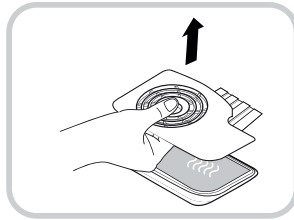

Fig. 2
- Disassemble the Tray, hold and lift the Grille at the top of the Tray and disassemble. (Fig. 2).